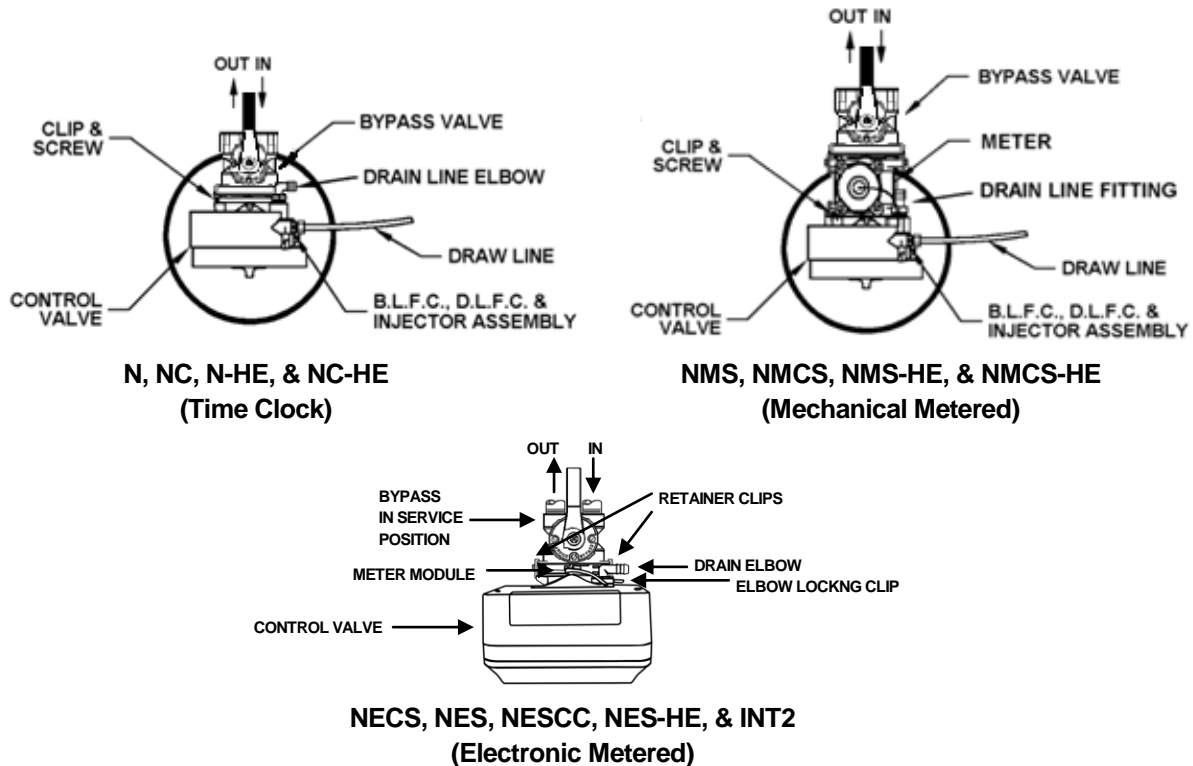

FIGURE 2: Top View of Control Valve
STEP 2: Use clips and screws provided and attach bypass valve to the inlet/outlet of the control valve. See figure 2 below.